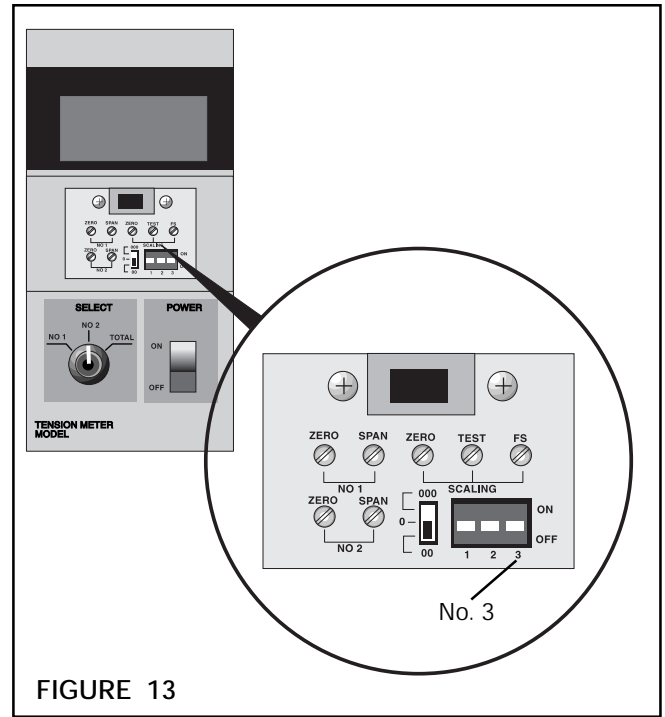

FIGURE 13
2. Set the **No. 3** Dip Switch to **ON** to provide **FILTERED** output, or **OFF** to provide **UNFILTERED** output (See Fig. 13).